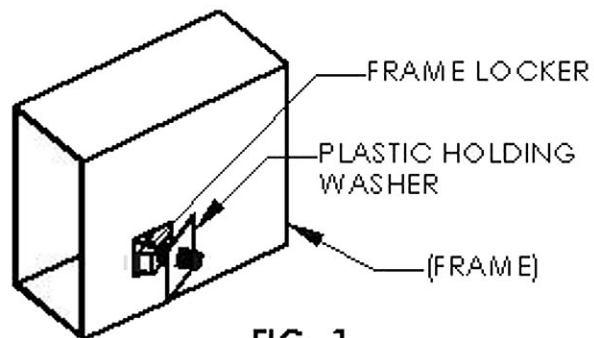

FIG. 1
STEP 2 INSTALL FRAME LOCKING BOLTS INTO THE SQUARE HOLES IN THE FRAME, AS SHOWN IN FIG. 1 & 2.